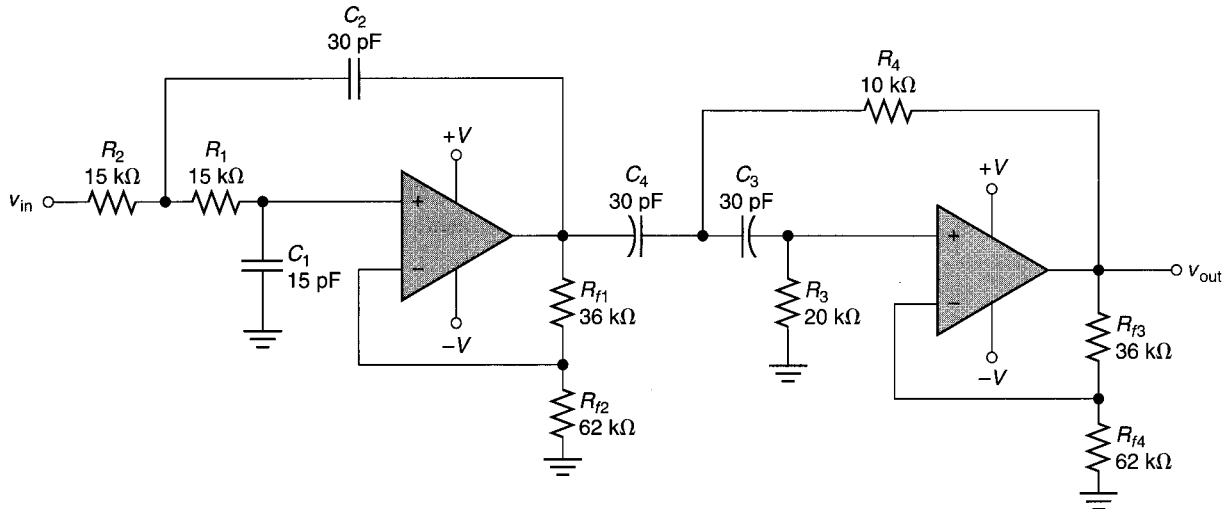

FIGURE 17.51
16. Calculate the values of  $f_{C1}$ ,  $f_{C2}$ , bandwidth, geometric center frequency, and  $Q$  for the band-pass filter in Figure 17.51.